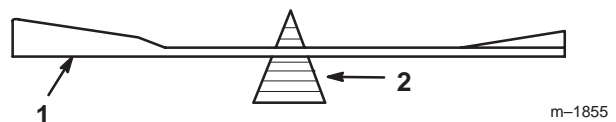

Figure 21
2. Check the balance of the blade by putting it on a blade balancer (Fig. 21). If the blade stays in a horizontal position, the blade is balanced and can be used. If the blade is not balanced, file some metal off the end of the sail area only (Fig. 20). Repeat this procedure until the blade is balanced.